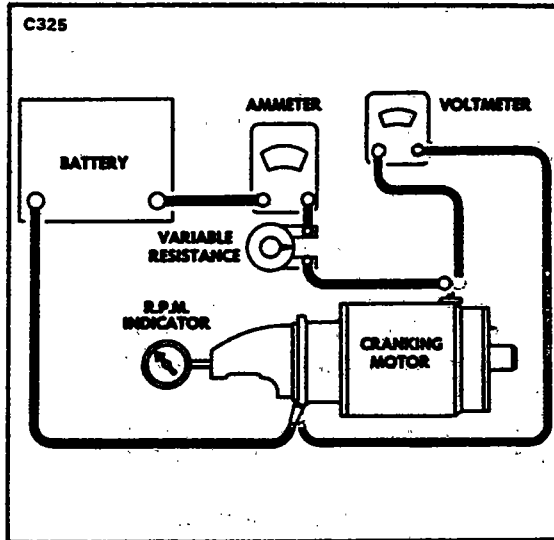

Figure 11-44. No-Load Test Hookup
**11-85. NO LOAD TEST.** (Refer to Figure 11-44.) Connect the starting motor in series with a fully charged battery of the specified voltage, an ammeter capable of reading several hundred amperes, and a variable resistance. Also connect a voltmeter as illustrated, from the motor terminal to the motor frame. An RPM indicator is necessary to measure armature speed. Obtain the specified voltage by varying the resistance unit. Then read the current draw and the armature speed and compare these readings with the values listed in paragraph 11-91. Interpret the test results as follows: